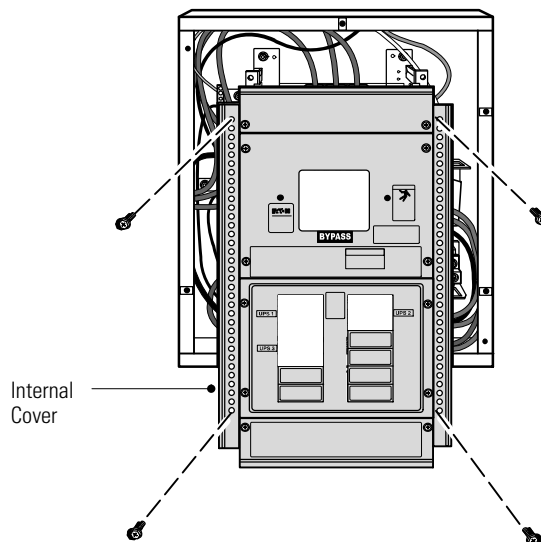

Figure 7. Internal Cover
6. Remove the internal cover to gain access to the breakers (see Figure 7).